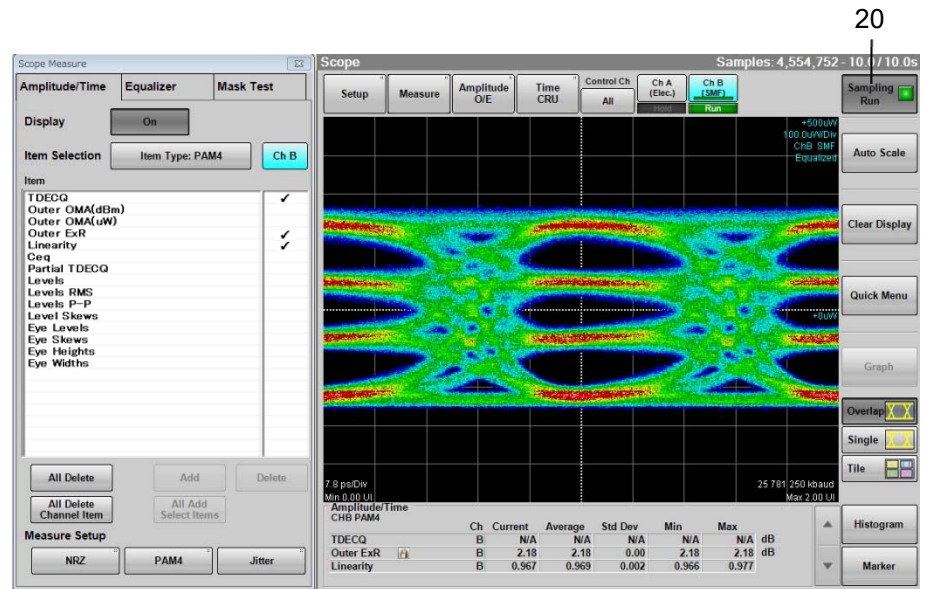

Figure 6.9.1.2-8 Display Example of Measurement Results
21. To display the not-equalized waveform, set Display Equalized Waveform shown in Figure 6.9.1.2-7 to **Off**.